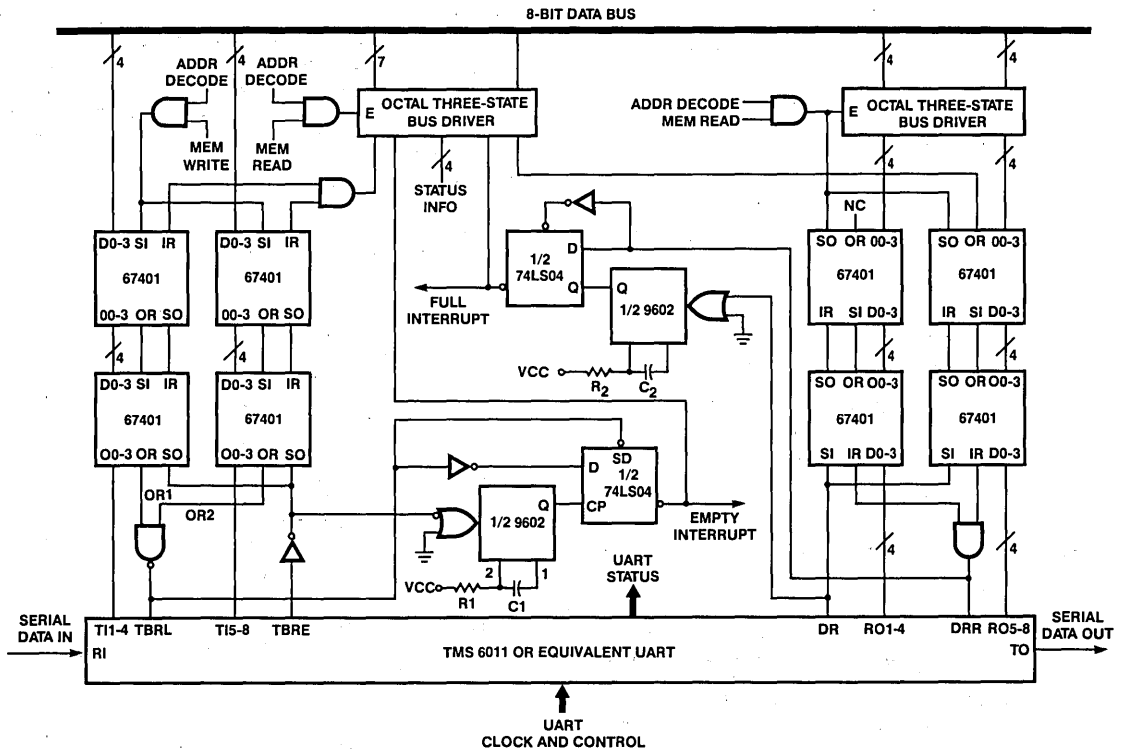
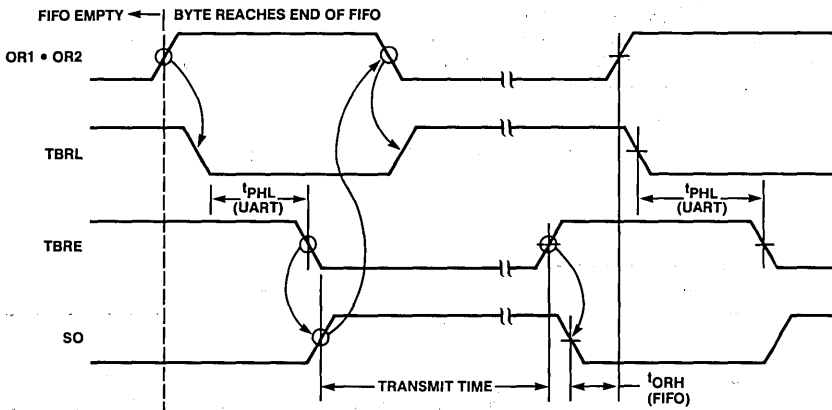
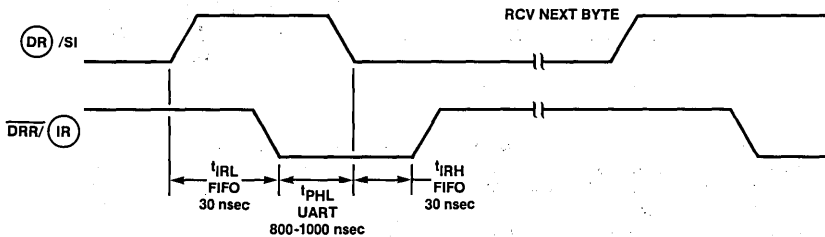

Figure 21. UART Data Buffer Logic for XMIT and RCV Using 67401 FIFOs
Figure 22. Timing Diagram, Transmit Buffer Operation
Figure 23. Timing Diagram, Receive Buffer Operation
accepts parallel data bytes from the computer's data bus, converts to serial data, and adds start, parity, and stop bits. The receiver section of the UART accepts serial data from a transmission line, modem, or terminal, validates the data by checking proper start, parity and stop bits, and converts the data to parallel bytes to be read by the computer on its data bus. In effect, the UART is a monolithic serial I/O port for the computer. Serial data rates up to 9600 baud are permitted by the UART, but much slower rates (110 to 300 baud) are commonly used to interface terminals. 110 baud corresponds to 10 bytes per second at the data bus. FIFOs can be used between the computer's data bus and the UART in both receive and transmit mode to match the low serial transmission rates to high speed bursts that make much more efficient use of the computer's time and memory space. A logic diagram for this interface is shown in Figure 21. Four 67401 FIFOs are connected in a series/parallel arrangement for both the transmit and the receive buffers. This arrangement permits a 128-byte buffer capacity for transmit and 128 bytes for receive. The buffers can be expanded easily in both width and length to accommodate different computers or greater buffer capacity.
The interface shown in Figure 21 allows the computer to write bursts of up to 128 bytes at the maximum data rate of the computer into the 67401 FIFO array. The input ready signals are ANDed together and fed back through a status port to the computer data bus so that burst data may be written under program control as rapidly as the write program will allow. The UART reads the outputs of the FIFO array one byte at a time, adds start, stop and parity bits and serializes the data to the serial output at the desired transmission rate (assumed to be much slower than the input burst rate). Assuming that the FIFO array is initially empty, the operation proceeds in accordance with the timing diagram in Figure 22. When the first parallel byte reaches the output of the buffer, the Output Ready lines go high. When both OR1 and OR2 have gone high, the NAND gate drives the UART's Transmit Buffer Register Load (TBRL) signal low. After the tPHL delay in the UART, the Transmit Buffer Register Empty (tbRE) signal goes LOW, causing the UART to
In many applications of the 67401 FIFO it is necessary to determine when the transmit buffer is empty or the receive buffer is full. The logic required to provide both these signals is shown in Figure 21.
The receive buffer logic is shown in the right hand portion of Figure 21 and the timing diagram is shown in Figure 23. The UART receives serial data with start, stop, and parity bits, evaluates parity, and converts the data to parallel bytes to be stored in the FIFO at the slow or erratic receive rate. The Data Ready (DR) signal of the UART is tied to SI on the two FIFOs and the two IR lines are ANDed together to drive the Data Ready Reset (DRR) line of the UART. When the FIFO is ready to accept a byte of data from the UART, the AND of the two IR signals holds DRR HIGH. If the UART has a new byte, it sets DR HIGH, driving SI HIGH to enter the new data into the input register of the FIFOs. After the  $t_{IRL}$  delay, IR goes LOW driving DRR LOW. After the  $t_{PHL}$  delay in the UART, DR goes LOW driving SI LOW. If the FIFO is not full, IR returns HIGH after  $t_{IRH}$  indicating to the UART that the FIFO